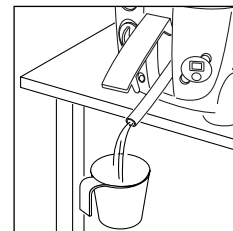
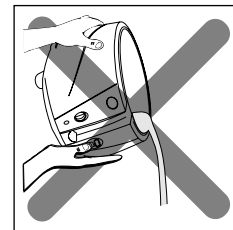

fig. 9
fig. 10
4. Let the liquid flow out into a container (Fig. 9), ensuring that it does not spill. Never empty the deep fryer by tilting it or turning it upside down (Fig. 10).